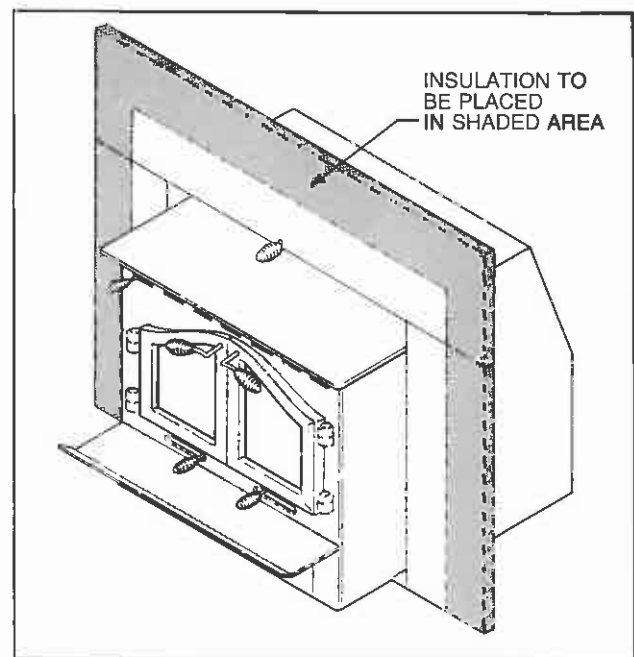

Fig. 5. Insulation in position.
- B. Remove surround panels and fiberglass insulation from carton and lay the 3 panels (top and 2 sides) face down on a carpet or other soft surface. Spread out insulation and cut to length so that the 3 cut pieces will fit behind the panels. The insulation pieces will be placed at the outer portion of the surround panel (See Fig. 5).